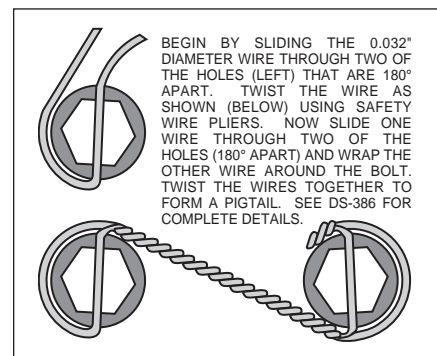

Figure 2. Safety Wire Diagram
• Safety wire bolts using standard 0.032 inch diameter stainless steel safety wire as shown in Figure 2. Please refer to Wilwood's data sheet DS-386 (available at www.wilwood.com/Pdf/DataSheets/ds386.pdf) for complete safety wire installation instructions.